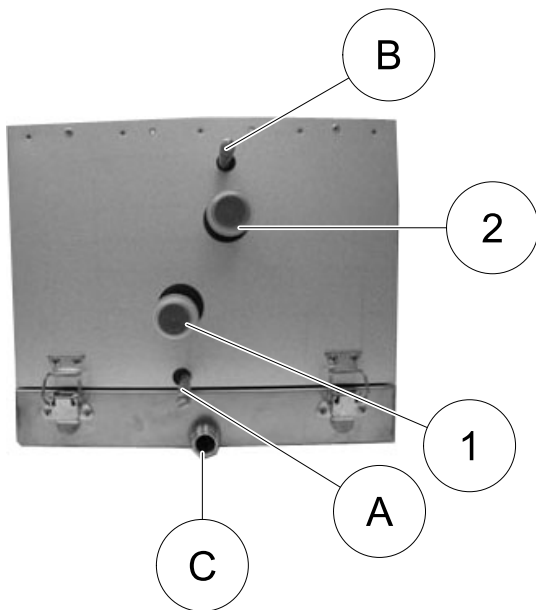

Fig. 2 Water connections
The condensate outlet (pos C) in figure 2 should be connected across a water trap in order to avoid air leakage.
3. The water inlet must be connected to the lower pipe (pos 1) and the outlet to the upper pipe (pos 2) in figure 2. The inlet is provided with a drain connection (pos A) and the outlet with an air purging connection (pos B).